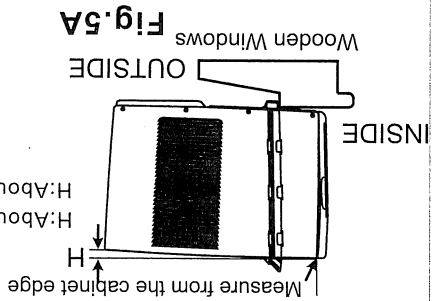
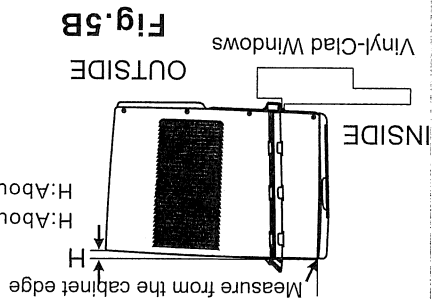

Fig. 5A
Fig. 5B
A. Keep a firm grip on the air conditioner, carefully place the unit into the window opening so the bottom of the air conditioner frame is against the window sill (Fig. 5A and Fig. 5B). Carefully close the window behind the top rail of the unit.
NOTE: Check that air conditioner is tilted back about H (Fig. 5A and Fig. 5B) (tilted about 3° to 4° downward to the outside). After proper installation, condensate should not drain from the overflow drain hole during normal use, correct the slope otherwise.